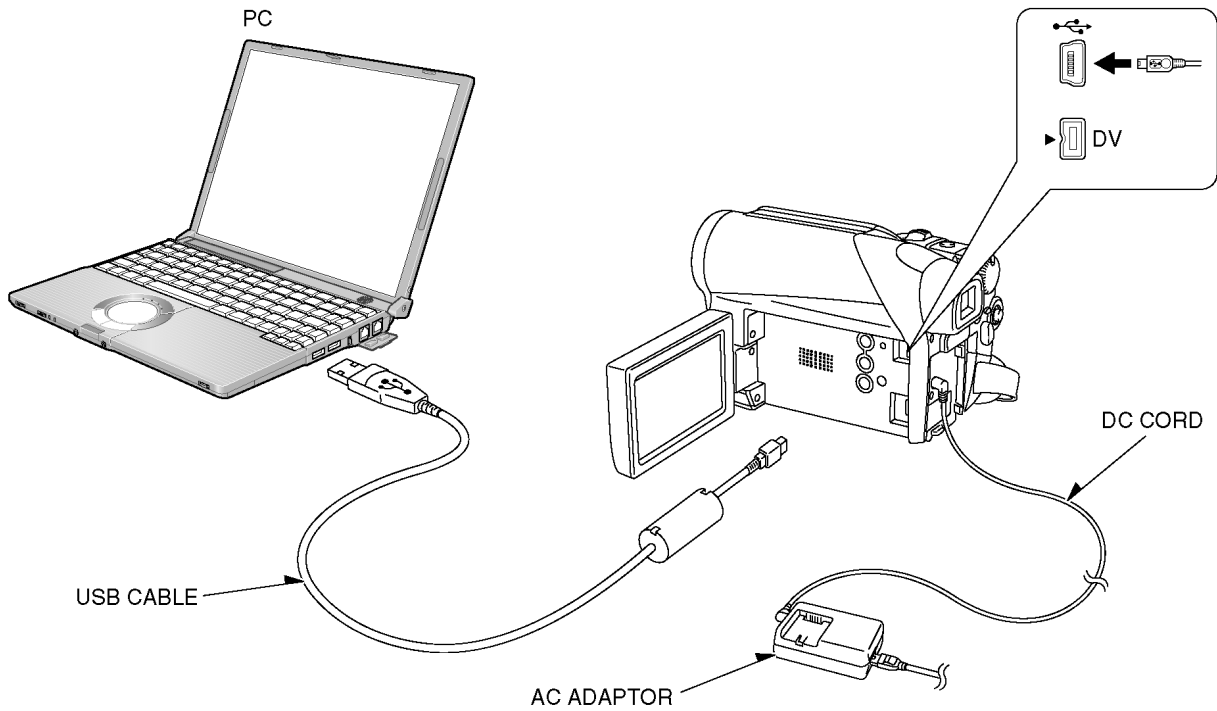

Fig. E1
c. Connect the PC and Digital Video Comcorder or Digital Video Camera as shown in Fig. E1 and E2.